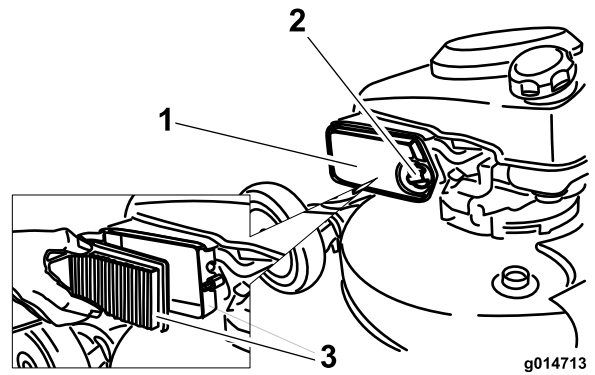

Figure 40
1. Use a screw driver to open the air filter cover (Figure 40).
2. Replace the air filter (Figure 40).